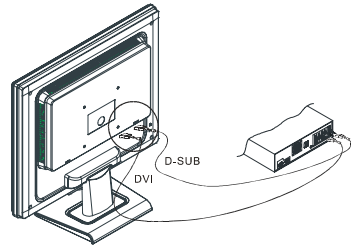

Figure 1-4
2. Connect one end of the signal cable to the LCD Monitor's D-SUB or DVI (option) port.(See Fig 1-4)